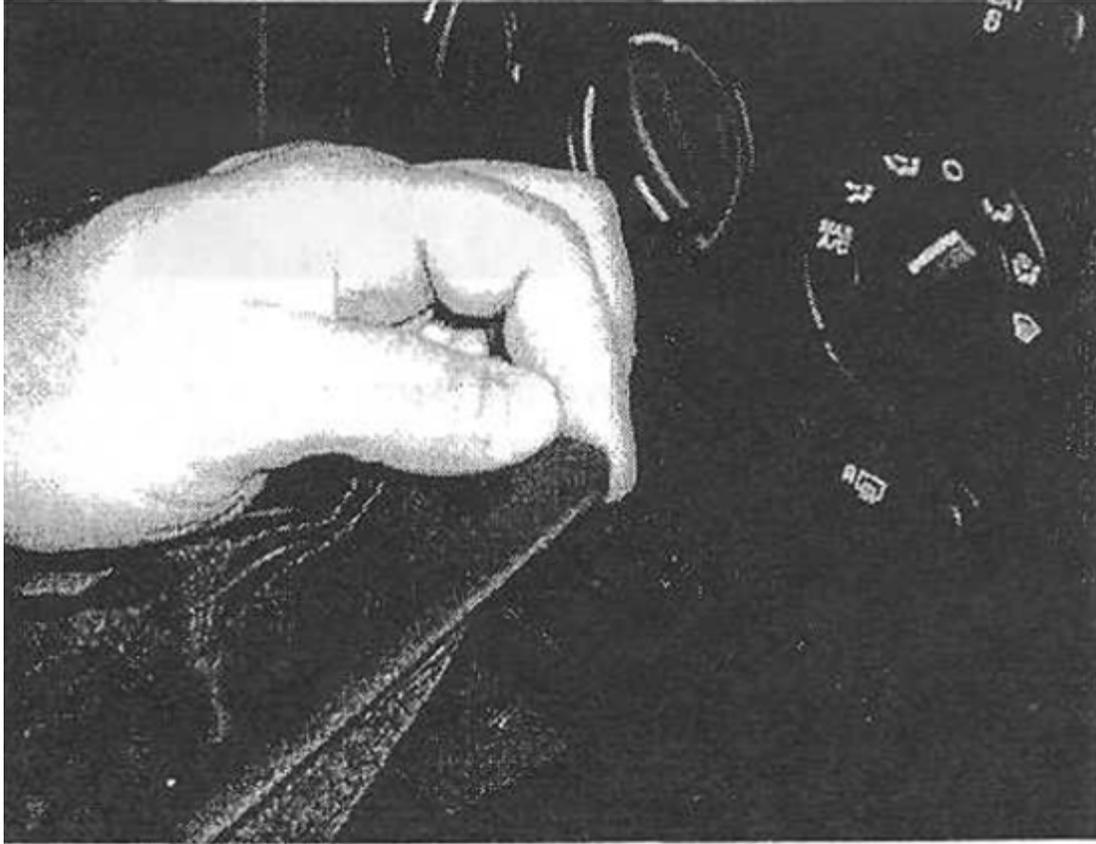

Figure 1
4. Using both hands, place fingers underneath front outer edges of shifter boot and pull up to release and remove from console (See Fig.1). Slide boot up and over shifter stick.